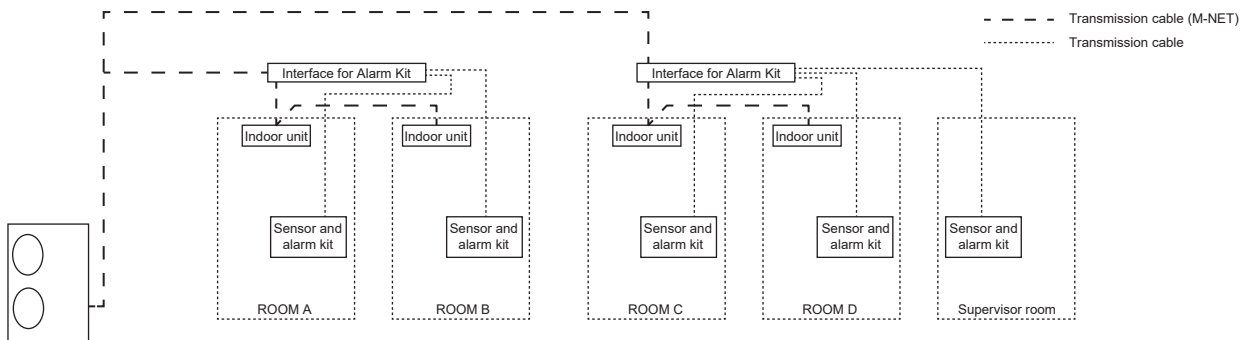

Fig. 5-4
- When using multiple Power Supply Interfaces for Alarm Kit, the indoor unit and the Sensor and alarm kit installed in the same room shall be connected to the same Power Supply Interface for Alarm Kit. (See Fig. 5-4.)